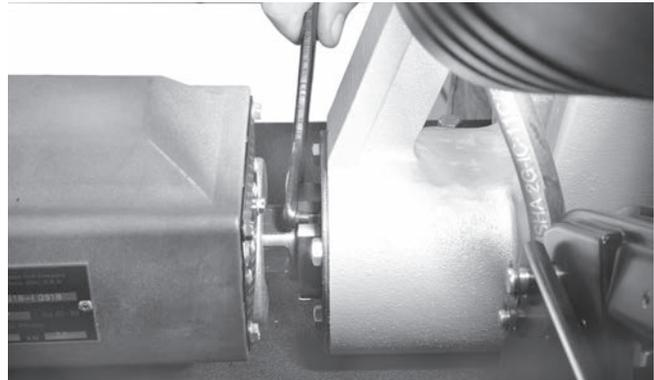

Figure 25 – Loosen and Remove Drive Shaft Retaining Nut
3. Remove the drive shaft from the front of the groover (Figure 25).
4. Use the spanner wrench to remove the drive shaft bearing retaining nut (Figure 25).